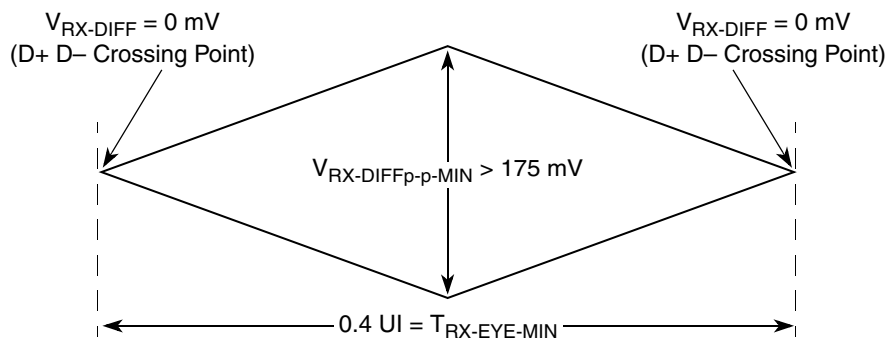
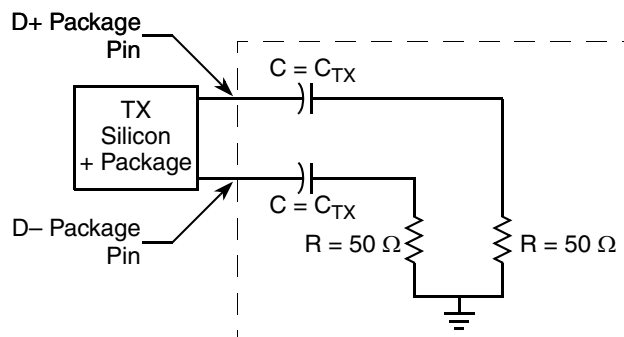

Figure 49. Minimum Receiver Eye Timing and Voltage Compliance Specification
Figure 50. Compliance Test/Measurement Load
2. Specified at the measurement point into a timing and voltage compliance test load as shown in Figure 50 and measured over any 250 consecutive TX UIs. (Also see the transmitter compliance eye diagram shown in Figure 48.)
4. The transmitter input impedance shall result in a differential return loss greater than or equal to 12 dB and a common mode return loss greater than or equal to 6 dB over a frequency range of 50 MHz to 1.25 GHz. This input impedance requirement applies to all valid input levels. The reference impedance for return loss measurements is 50 Ω to ground for both the D+ and D– line (that is, as measured by a vector network analyzer with 50- Ω probes—see Figure 50). Note that the series capacitors C_{TX} is optional for the return loss measurement.
5. Measured between 20%–80% at transmitter package pins into a test load as shown in Figure 50 for both $V_{\text{TX-D+}}$ and $V_{\text{TX-D-}}$.
The TX eye diagram in Figure 48 is specified using the passive compliance/test measurement load (see Figure 50) in place of any real PCI Express interconnect +RX component.
- Specified at the measurement point and measured over any 250 consecutive UIs. The test load in Figure 50 must be used as the RX device when taking measurements (also see the receiver compliance eye diagram shown in Figure 49). If the clocks to the RX and TX are not derived from the same reference clock, the TX UI recovered from 3500 consecutive UI must be used as a reference for the eye diagram.
- The receiver input impedance shall result in a differential return loss greater than or equal to 15 dB with the D+ line biased to 300 mV and the D– line biased to –300 mV and a common mode return loss greater than or equal to 6 dB (no bias required) over a frequency range of 50 MHz to 1.25 GHz. This input impedance requirement applies to all valid input levels. The reference impedance for return loss measurements for is 50 Ω to ground for both the D+ and D– line (that is, as measured by a vector network analyzer with 50- Ω probes—see Figure 50). Note: that the series capacitors CTX is optional for the return loss measurement.
The RX eye diagram in Figure 49 is specified using the passive compliance/test measurement load (see Figure 50) in place of any real PCI Express RX component.
Note: In general, the minimum receiver eye diagram measured with the compliance/test measurement load (see Figure 50) is larger than the minimum receiver eye diagram measured over a range of systems at the input receiver of any real PCI Express component. The degraded eye diagram at the input receiver is due to traces internal to the package as well as silicon parasitic characteristics which cause the real PCI Express component to vary in impedance from the compliance/test measurement load. The input receiver eye diagram is implementation specific and is not specified. RX component designer must provide additional margin to adequately compensate for the degraded minimum receiver eye diagram (shown in Figure 49) expected at the input receiver based on some adequate combination of system simulations and the return loss measured looking into the RX package and silicon. The RX eye diagram must be aligned in time using the jitter median to locate the center of the eye diagram.
The reference impedance for return loss measurements is 50. to ground for both the D+ and D– line (that is, as measured by a vector network analyzer with 50-Ω probes—see Figure 50). Note that the series capacitors, CTX, are optional for the return loss measurement.
The AC timing and voltage parameters must be verified at the measurement point, as specified within 0.2 inches of the package pins, into a test/measurement load shown in Figure 50.